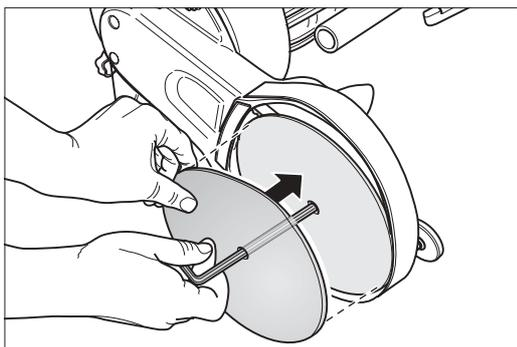

Fig. 46: To centre the sanding disc, insert the Allen key into the hole of the sanding disc and then into the hexagon socket of the sandpaper tensing screw.
- 6 Set the Velcro sanding disc in place by inserting the Allen key in the hole of the sanding disc first and then into the hexagon socket of the sandpaper tensing screw (Fig. 46). Then move the sanding disc up to the sanding disc wheel so that it rests precisely in centred position on the sanding disc wheel.